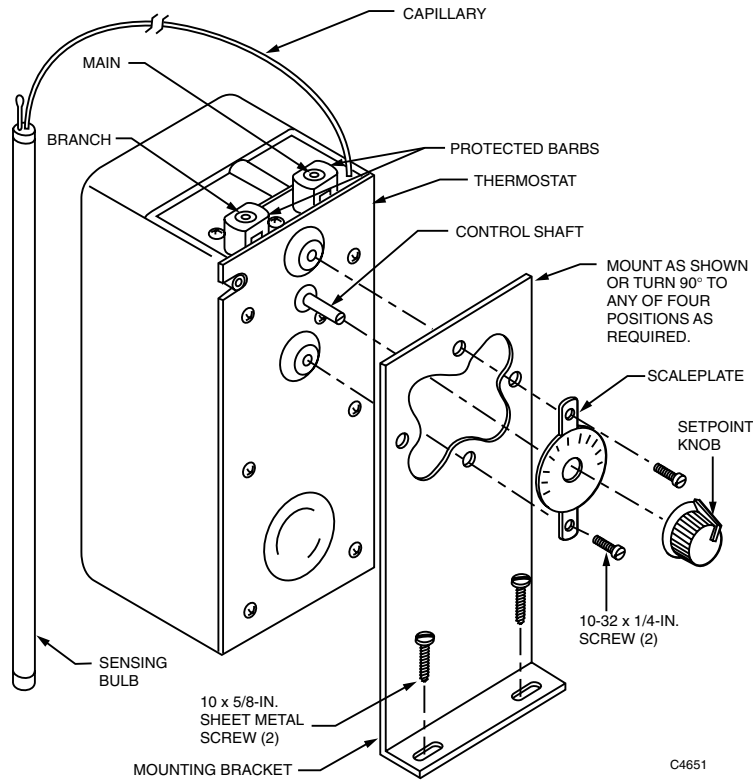

Fig. 17. Assembling the thermostat, mounting bracket and scale plate.
1. Assemble the thermostat, mounting bracket and scale plate. See Fig. 17.
4. Hold the thermostat in place and mark the screw hole centers in the terminal unit. See Fig. 17.